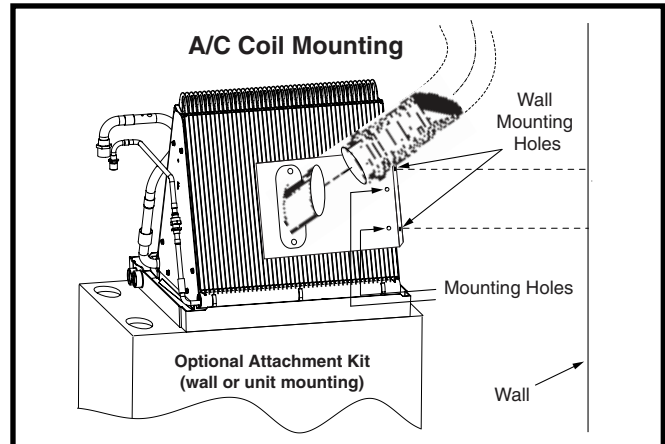

Figure 2. Downflow Electric Furnace with A/C
- NOTE:** An optional VentilAire™ attachment kit (P/N 919328) may be purchased to attach the plastic inlet fitting to the coil or wall in Heat/Cool and Heat only (no coil) applications. This bulk kit is supplied with 24 brackets and fasteners. The plastic inlet fitting snaps into the bracket opening without screws. See Figure 2.
- **Electric Furnace with Nortek A/C coil** - Align and fasten the VentilAire™ attachment bracket with the holes in the coil end-plate flange. See Figure 2.
- **Electric Furnace with non-Nortek A/C coil** – When using other brands of coils, the installer has the option to attach the bracket to the wall of the furnace cavity. Fastening must penetrate into a framing member or sheetrock anchors. See Figure 2.